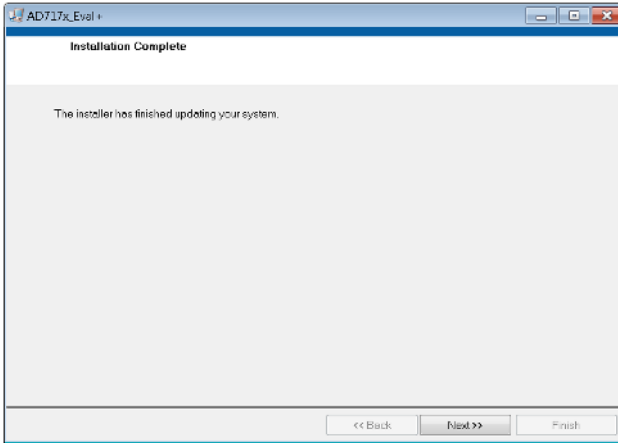

Figure 7. AD7175x Eval+ Installation Complete
- The message in Figure 7 appears when the installation is complete.